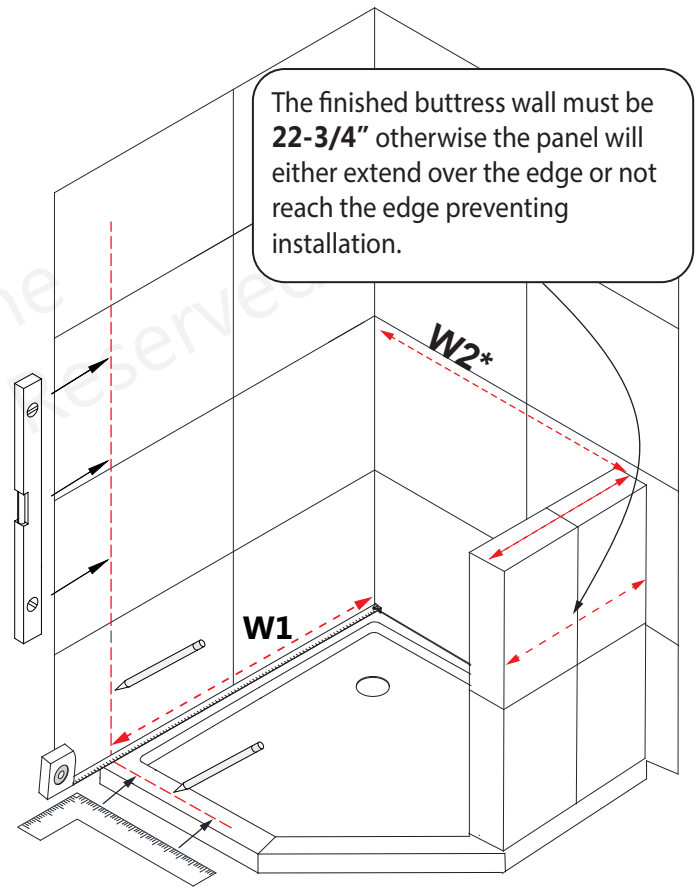

Fig 1
1. Starting from the bottom of the back corner on the wall opposite the buttress wall, measure to the model size "**W1**" shown in **TABLE A**. Use a 4' level to draw a plumb line up the wall from that mark. This line will represent the outside edge of the **U-Channel (#1)**. Use a carpenter's square against the wall to also mark the threshold. (**TABLE A**) (**Fig 1**)